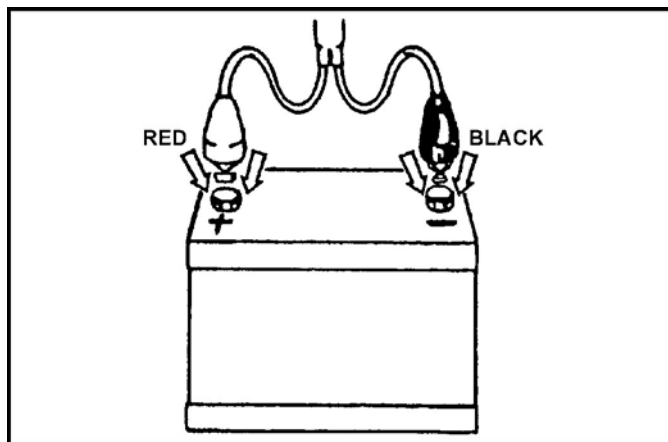

Figure 11. Attachment of cable to battery.
- d. The vehicular battery cable has one red battery clamp and one black battery clamp. Attach the red clamp to the positive battery post and the black clamp to the negative battery post (Figure 11).